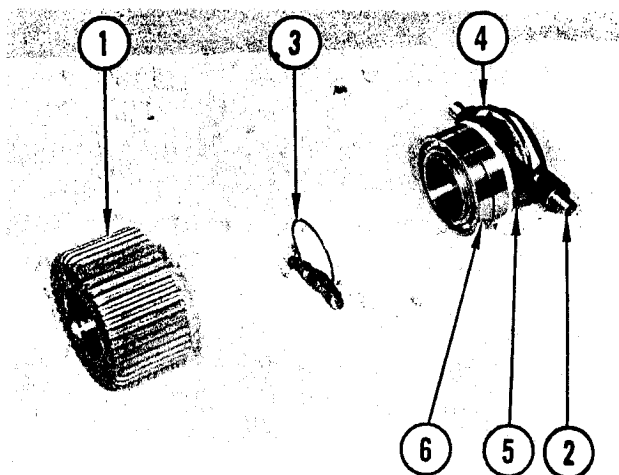

FIGURE 60. EXPLODED VIEW OF THRUST GEAR
Remove thrust gear assembly (4) from release bearing support (7). The thrust gear assembly consists of a thrust gear, small retaining ring, two ball bearings, spacer, large retaining ring and bearing release sleeve, Figure 60.